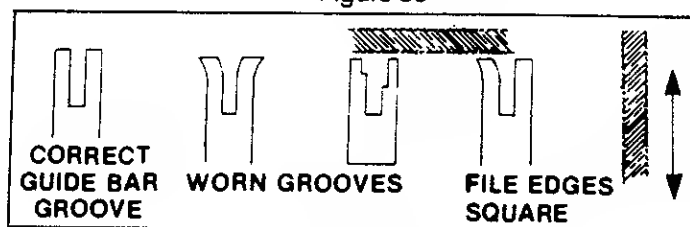

Figure 37
- Remove burrs by filing the side edges of the guide bar grooves square with a flat file. Figure 37.
- Restore square edges to an uneven rail top by filing with a flat file. Figure 37.